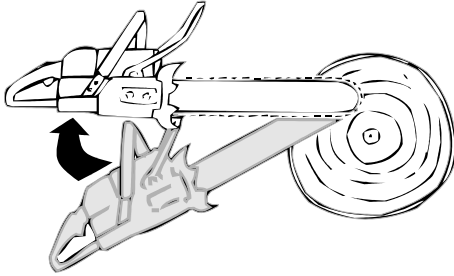

Figure 67 Starting at the top of the log
1. Commence cut with the lower section of the guide bar nose until the depth of the kerf is about the same as the width of the bar. (Fig. 67)